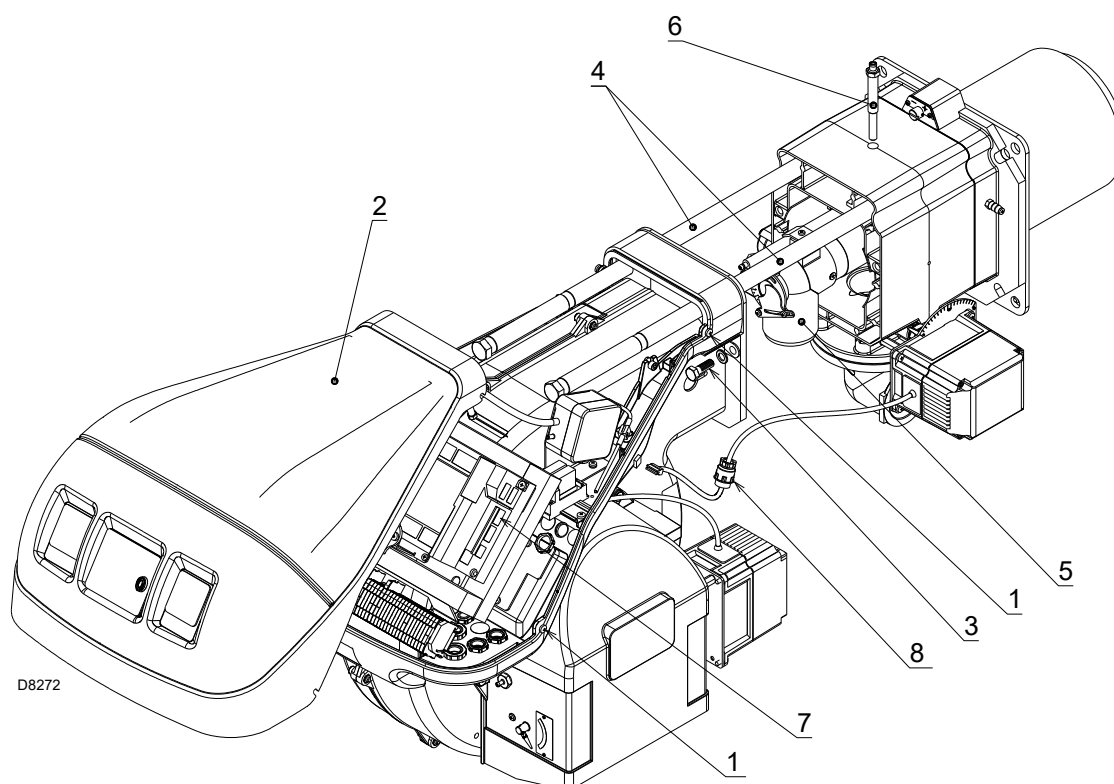

Fig. 40
Make sure that the gas outlet holes for the start-up, on the combustion head distributor, are free of dirt or rust deposits. If in doubt, disassemble the elbow (Fig. 40 at page 55).
- Loosen the 4 screws 1)(Fig. 40) and remove the hood 2).